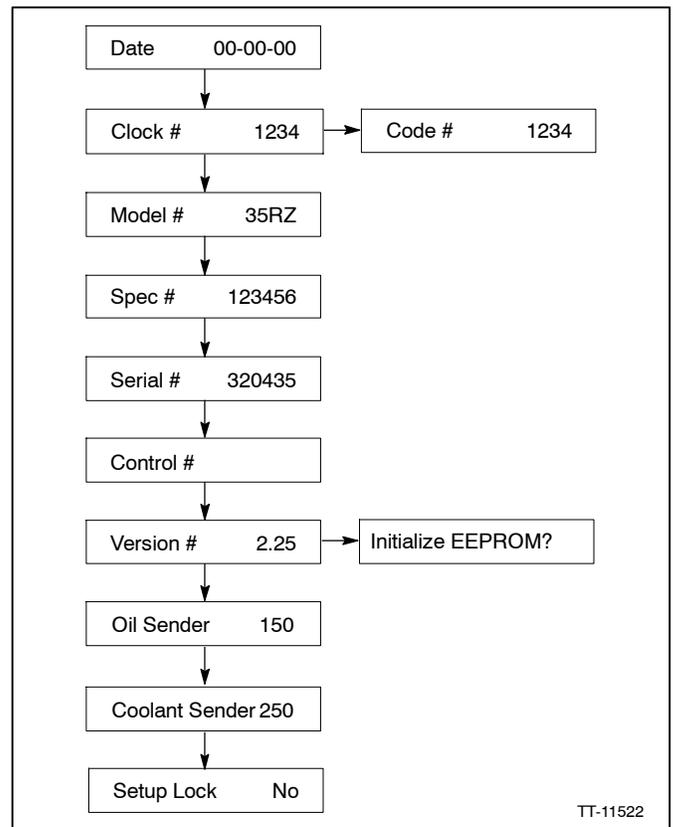

Figure 2 Menu 20—Final Assembly
- 5.1 Go to Menu 20—Final Assembly and arrow down to Version No. 2.25. See Figure 2. Arrow right to initialize EEPROM. Press the Enter button and the display shows Store Set-Points (this is a soft reboot of the logic board).
- 7.2 Arrow down to Setup Lock. See Figure 2.
- 7.8 Arrow back to Date. See Figure 2.